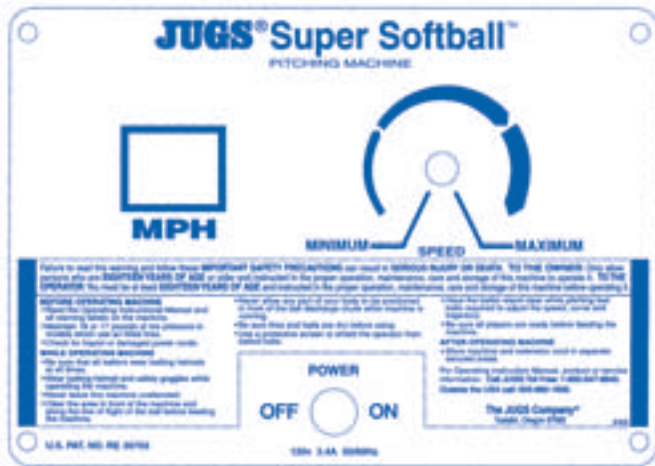

Figure 6. Digital Readout Panel
13. Increase the speed of the pitch by turning the dial clockwise on the Digital Readout Panel (see Figure 6).